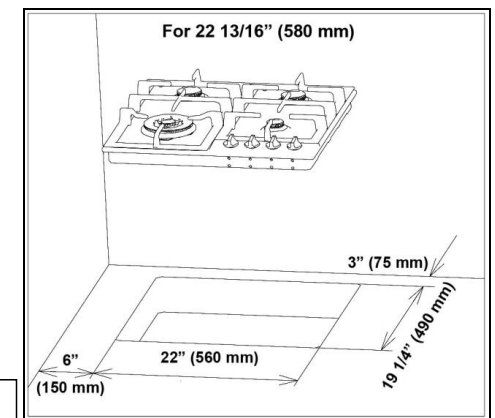

Figure 9
2) Cut the opening in the countertop. To ensure accuracy it is best to make a template (see Figure 9) for the opening. Make sure the sides are parallel also rear and front cuts are exactly perpendicular to the sides. Observe all minimum clearances.